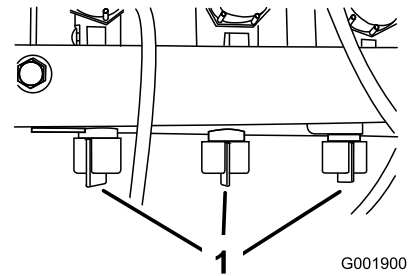

Figure 42
- Adjust the boom bypass valve (Figure 42) under the boom control valve for the boom you turned off until the pressure reading on the gauge is the same as it was in step 9.